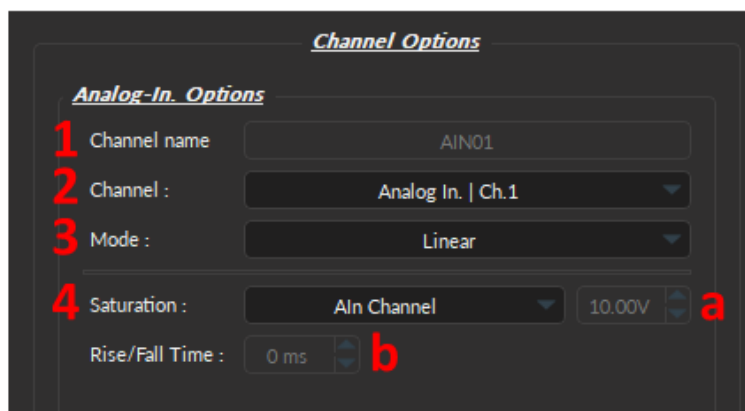
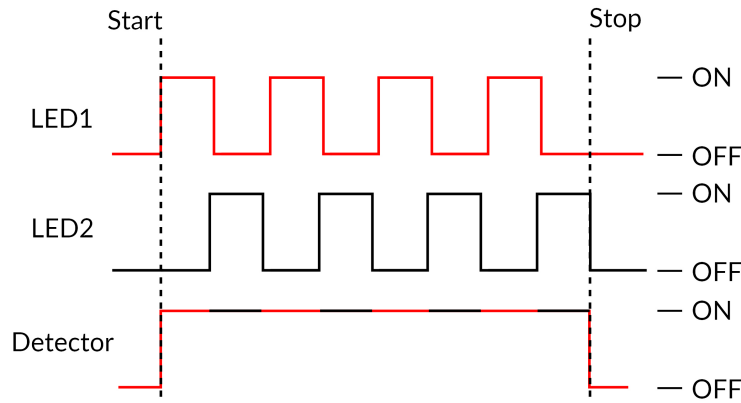
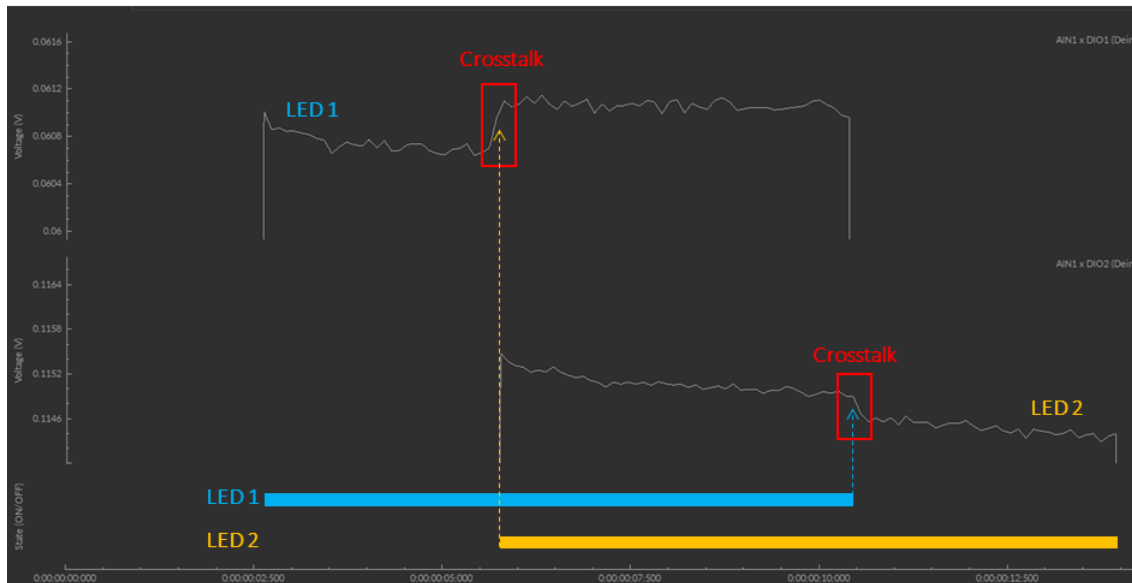

Figure 3.33: *Channel(s) configuration window, Analog Input - Channel Options*
Figure 3.35: Interleaved Acquisition Timing Diagram
Figure 3.36: Interleaved Cross-talk
The **Channel Options** (Fig. 3.33) defines the channel, source and mode of the digital signal, as following:
1. The **Channel name** (Fig 3.33, 1) allows user to specify a label for each channel.
2. The **Channel** (Fig 3.33, 2) identifies which of the channels available for each channel type is currently being modified. The channel can be changed by selecting a new one from the drop-down list. Each numbered channel on the physical console corresponds to the same number of the digital channel within the software.
4. The **Saturation** (Fig. 3.33, 4) automatically sets the following parameters and depends on the detector acquiring the data (Detectors: *Doric detector*, *Newport Detector*, *Hamamatsu C10709*, and *Aln Channel*):
- a) The **Maximum Voltage** (Fig. 3.33, 4a)
- b) The **Rise/Fall Time** (Fig. 3.33, 4b)
The **Interleaved** channel mode allows two channels to send an alternating pulsed signal of opposite phase for two separate light sources. Each source can excite a different fluorophore, which allows the detection of two separate fluorescence signals coming from the same sample using a single channel (Fig. 3.35).
The interleave preset is using 50% duty cycle for each LED, without delay between them (Fig. 3.35). Thus, depending on the Rise/Fall time of the detector in use (Fig. 3.33, 4b, Detector Rise/Fall Time), there will be more or less crosstalk between the interleaved channels (Fig. 3.36).
Specifically, when one of the digital channels is ON, it will pick up when the other is turn ON or OFF (Fig. 3.36). Figure 3.36 shows how the Digital Output channel of LED 1 has a small increase in voltage when the LED 2 is turned ON. And, conversely, there is a small dip in voltage in the LED 2 channel when LED 1 is turned OFF (Fig. 3.36).
that left most column = AOUT1). Users should enable the output(s) channels that will be driving the input specified in Fig. 3.33, 2.
- The **AIN #** corresponds to the console Analog In port number that receives the raw (non-demodulated) signal from the detector. To change the **AIN #**, select a different **Channel** number from the **Analog In Options** box (Fig. 3.33).